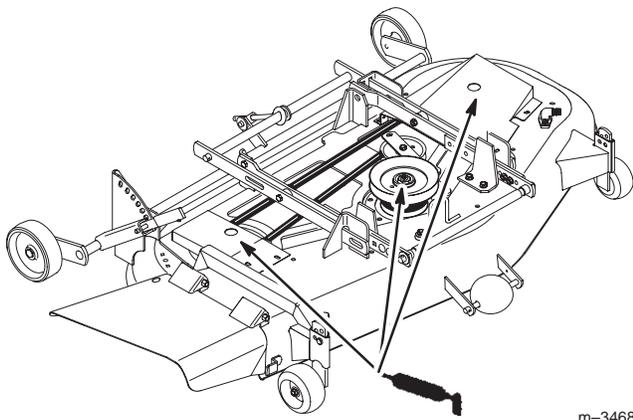

Figure 32
- Clean the grease fittings (Fig. 32) with a rag.
- Connect a grease gun to each fitting (Fig. 32).